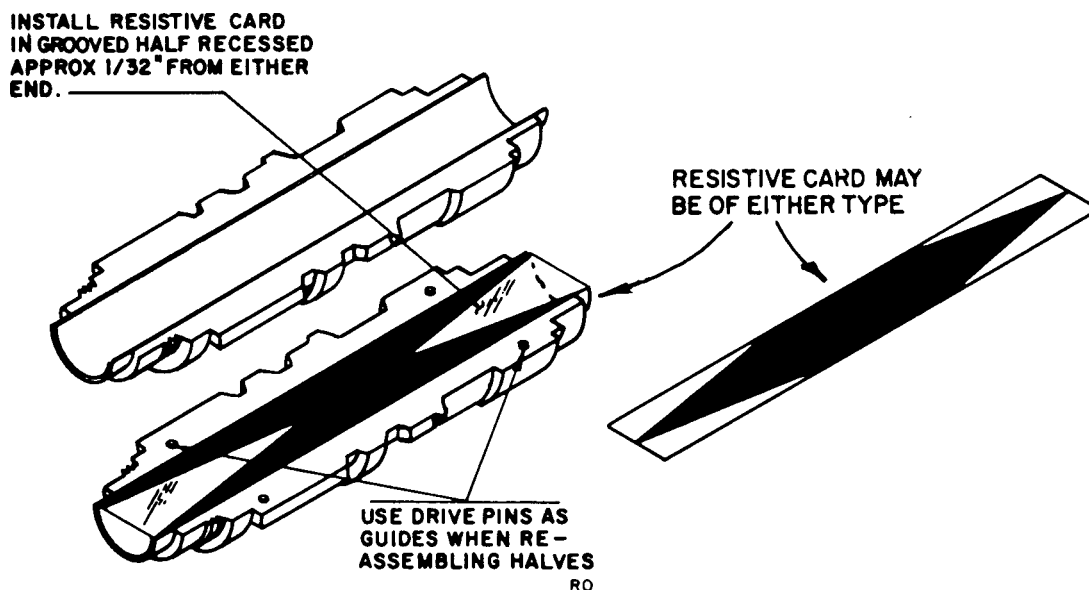

Figure 10 *Installation of Resistive Card in Center Section*
6. Install center card with emulsion side up (deposited side) in the recessed center section half as shown in Figure 10 page 22.